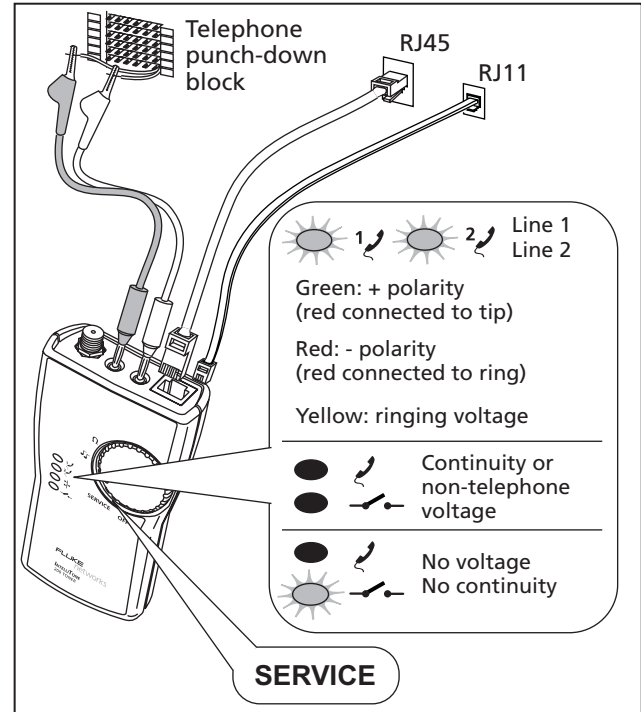

Figure 3. Validating Telephone Service and Polarity
2. Connect the toner to the circuit as shown in Figure 3. Disconnect unused test leads and connectors from the toner.
4. The LEDs indicate telephone service and polarity as shown in Figure 3.